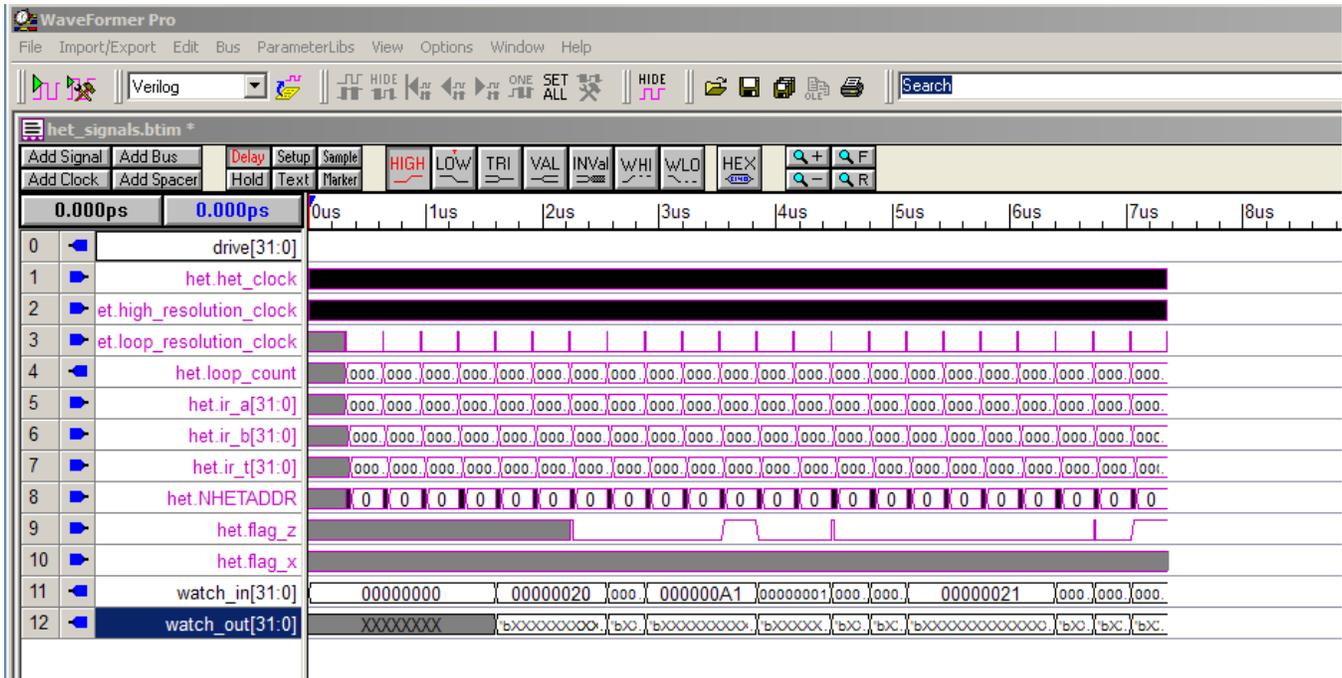

Figure 7. Waveform at Completion of Tutorial 1
- (b) Press the Zoom-Full Button (Magnifier with "F" beside it). Your screen should look like Figure 7.